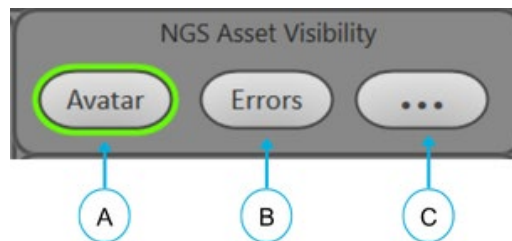

Figure 7-21: NGS Asset Visibility Menu
2. Locate the NGS Asset Visibility icon on the Settings screen (**Figure 7-21**).